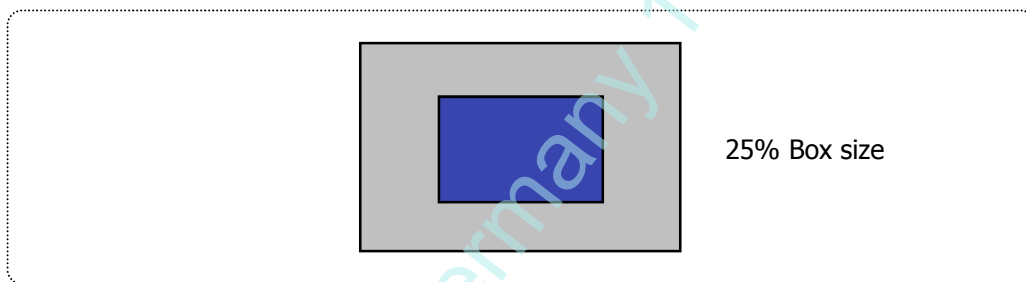

FIG.9 Color Shift Test Pattern
5. **Color shift** is the angle at which the average color difference for all Macbeth is lower than 0.02. For more information see FIG.9 **(By EZ Contrast)**